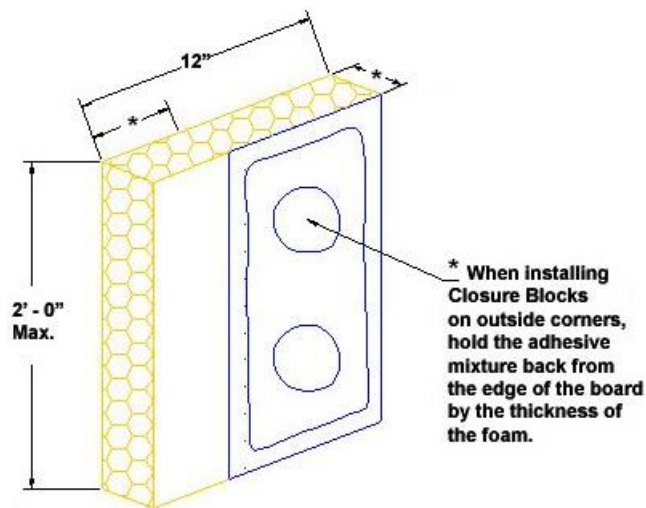

Fig. 27
2. Apply the adhesive mixture to the back side of the Closure Block using a ribbon and dab pattern. When installing Closure Blocks on outside corners, hold the adhesive mixture back from the edge of the board by the thickness of the foam and position on the wall as shown in Figure 27.